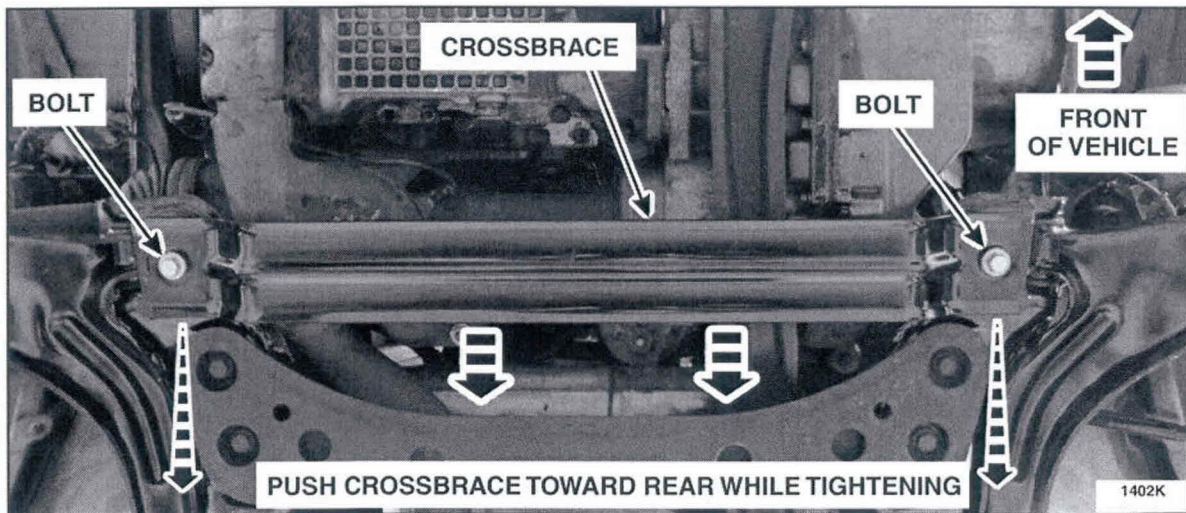

FIGURE 11
4. Install the crossbrace and two bolts onto the forward LCA attachment locations of the subframe. See Figure 11.